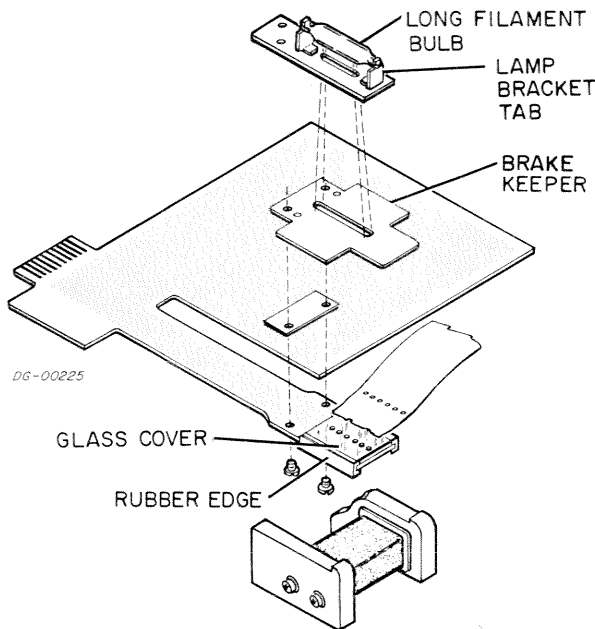

Figure N-1 The Optic/Brake Mechanism
1. Grasp the rubber edge of the glass cover, shown in Figure N-1, with the thumb and forefinger. Gently pull out the cover.